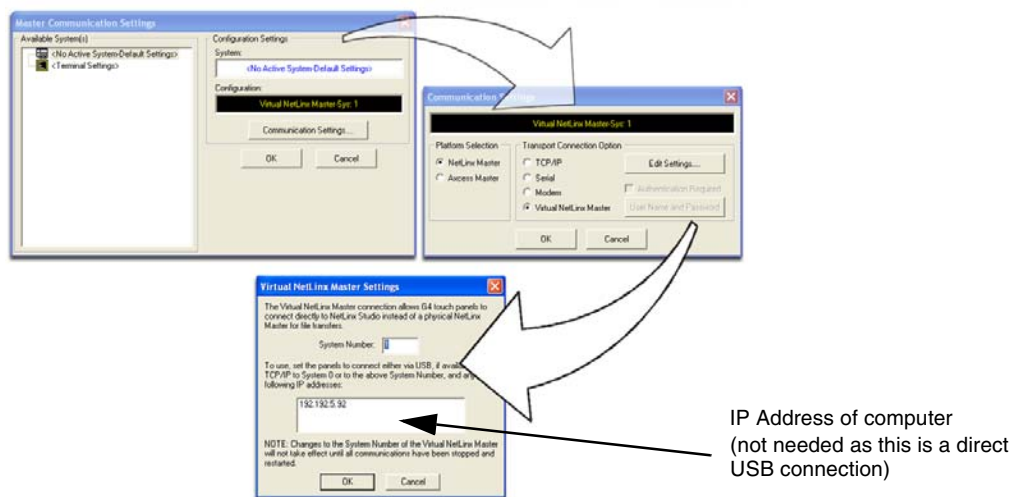

FIG. 93 Assigning Communication Settings for a Virtual Master
2. Select **Settings > Master Communication Settings**, from the Main menu to open the Master Communication Settings dialog (FIG. 93).
6. Click the **Edit Settings** button (*on the Communications Settings dialog*) to open the *Virtual NetLinX Master Settings* dialog (FIG. 93).